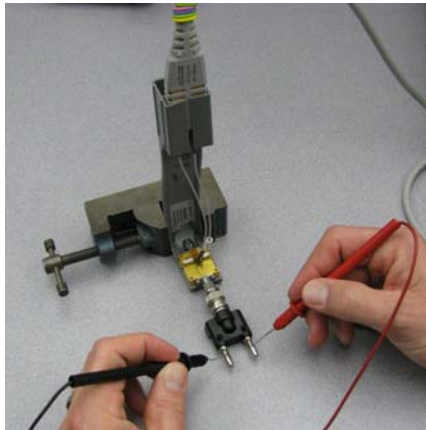

Figure 86 Measuring the Differential Input Resistance of Solder-In Probe Head
Figure 86 shows the correct setup for measuring the differential input resistance for the solder-in probe head.
- 1 Connect the BNC to SMA adapter and BNC to Banana Plug adapters as shown in Figure 86.
- 4 Connect the ZIF or solder-in probe head to the probe amp and insert it into the PV fixture as shown Figure 86.
- 6 As shown in Figure 86, measure the DC input resistance between the banana plugs. Since one tip wire is connected to the signal line and the other tip is connected to the PV fixture ground, this is a measurement of the differential input resistance. It should be $100\text{ k}\Omega \pm 2\%$ (98 to 102 k Ω).